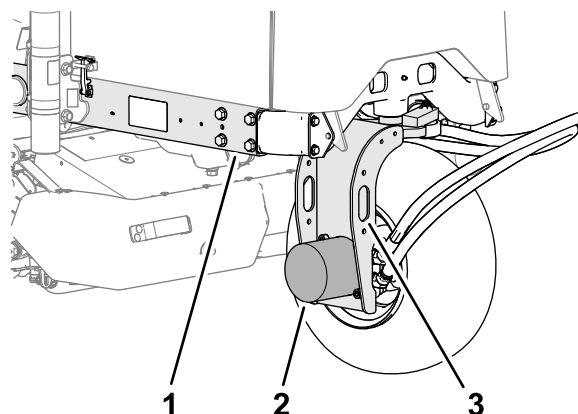

Figure 52
2. Secure the hoist to the tie-down loop of the rear-wheel fork (Figure 52).